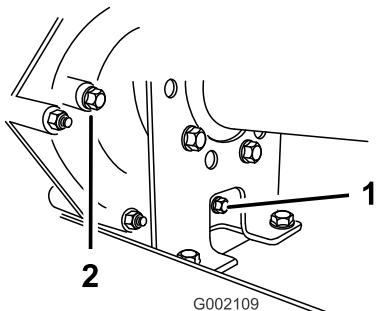
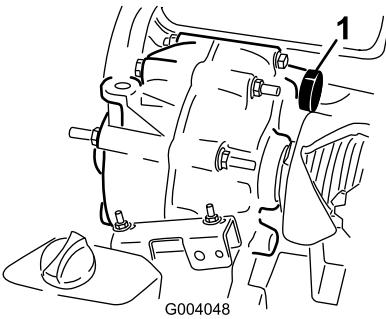

Figure 46
Figure 47
1. Wipe the area around the fill plug clean with a rag (Figure 46).
2. Remove the fill plug by rotating it counterclockwise (Figure 46).
3. Check the transmission-oil level by looking into the hole in the transmission for the fill plug (Figure 46).
5. Install and tighten the fill plug and gasket into the fill-plug hole of the transmission (Figure 46).
1. Wipe the area around the fill and drain plugs clean with a rag (Figure 46).
3. Remove the fill plug by rotating it counterclockwise (Figure 46).
4. Remove the drain plug by rotating it counterclockwise (Figure 46).
5. Install and tighten the drain plug and gasket into the drain-plug hole of the transmission (Figure 46).
6. Fill the reservoir (Figure 47) through the fill-plug hole with approximately 1.4 L (1-1/2 qt) of the specified oil or until the oil level in the transmission is even with the bottom of the threads. (Figure 46).
7. Install and tighten the fill plug and gasket into the fill-plug hole of the transmission (Figure 46).
9. Check the oil level and add more oil if the level is below the threads of the fill-plug hole (Figure 46).